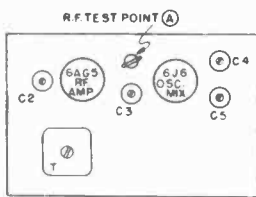

FIG. 3 - TOP VIEW
3. Connect vertical amplifier of Oscilloscope through a 10,000 ohm  $\frac{1}{2}$ w. resistor to Test Point (A) fig. 3.
7. Observe response curve on Scope. If necessary adjust C2, C3, or C4 (See fig. 3) so that response curve corresponds approximately to that shown in fig. 2, and has maximum gain.
8. Observe response curve and adjust C5, (figs. 3 & 4) for Zero-beat with 24.75 mc marker. *NOTE: Quality of response curve does not affect accuracy of oscillator alignment, so long as a zero-beat is obtained.*